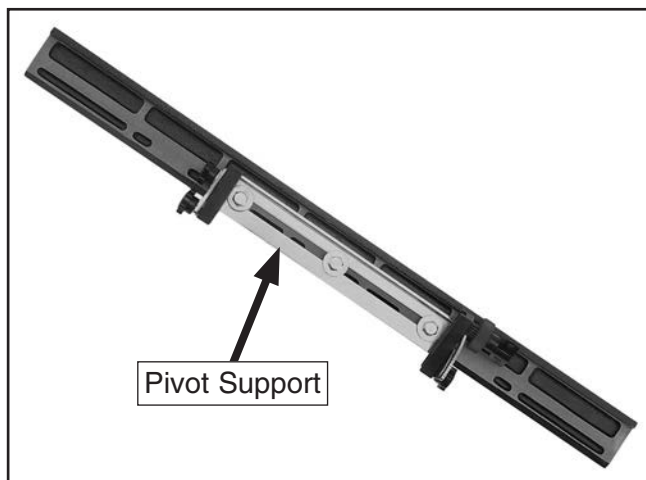

Figure 17. Pivot support attached to the slide table.
4. Remove the pivot support from the machine, then secure it to the back of the slide table with the three hex nuts and flat washers removed in **Step 3**, as shown in **Figure 17**.